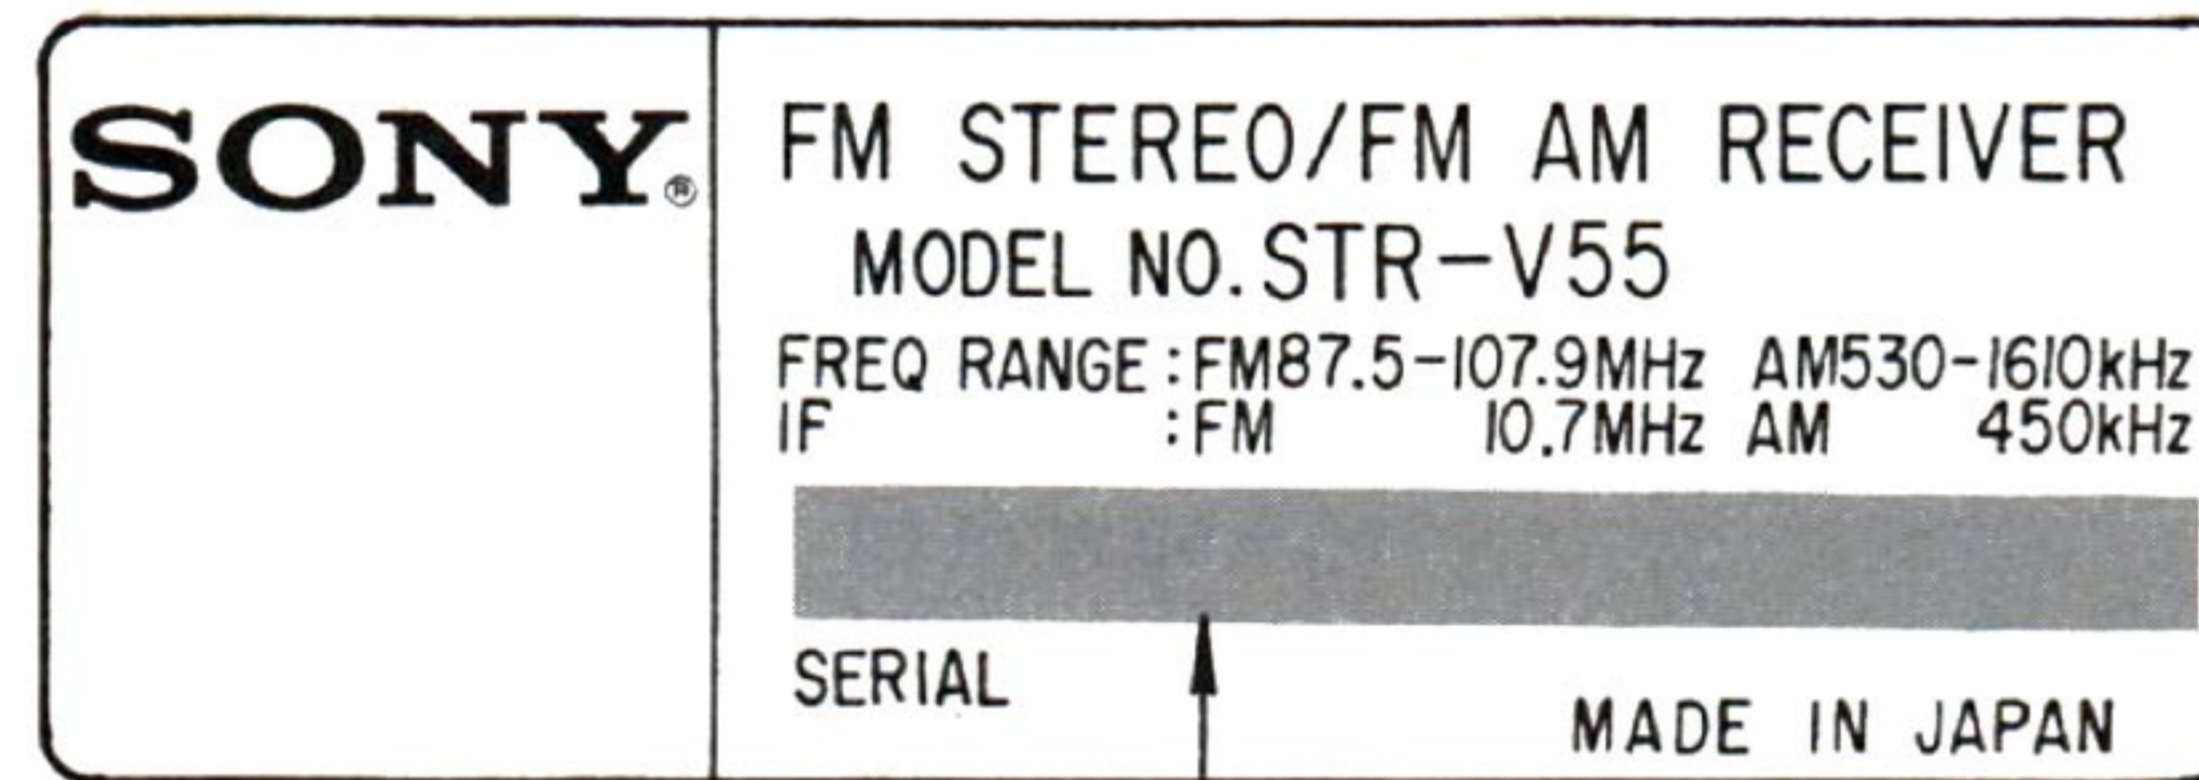

Fig. 2
- 3) When bending the lead terminals, be sure to bend the point 2 mm ($3/32''$) farther from the end of the diode's body. At this time, fix the foot of the terminal with a round nose plier and be sure that no force is applied to the diode's body. If not, a crack may occur (Fig. 2).